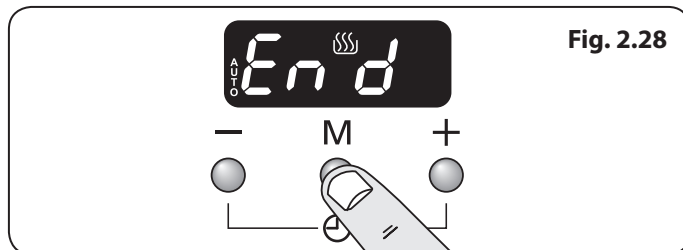
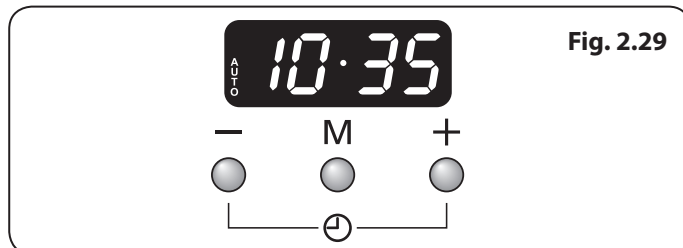

Fig. 2.28
Fig. 2.29
2. Press the mode [M] button until the display flashes (End) (**Fig. 2.28**). Then set the 'stop time' using the [+] or [-] buttons. Current time will be displayed along with the word 'AUTO' (**Fig. 2.29**).